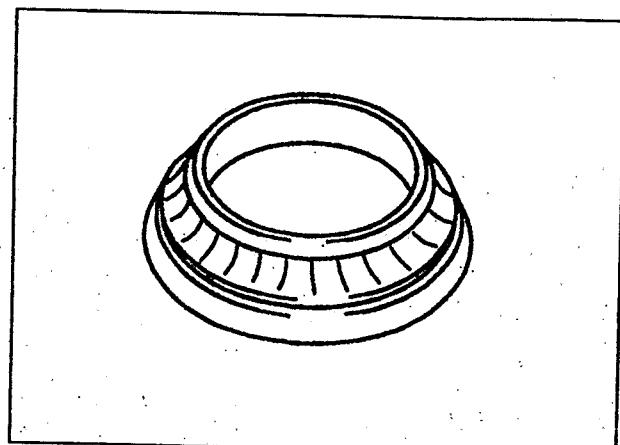

Fig 2.41
- Wear of the inner and outer races (fig 2.41)